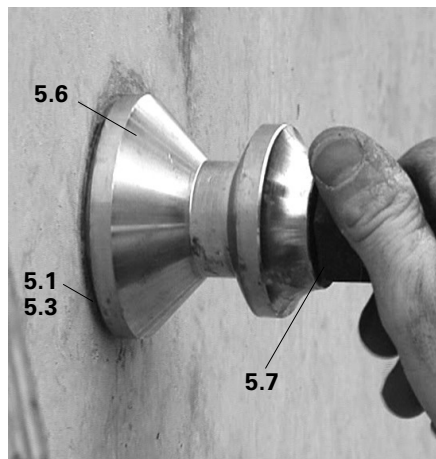

Fig. B1.17
3. Place the Scaffold Mounting Ring M24 (5.6) on the cone cup of the Screw-On or Climbing Cone (5.1/5.3) and secure using bolt M24 x 120 ISO 4014-10.9 (5.7). (Fig. B1.17)